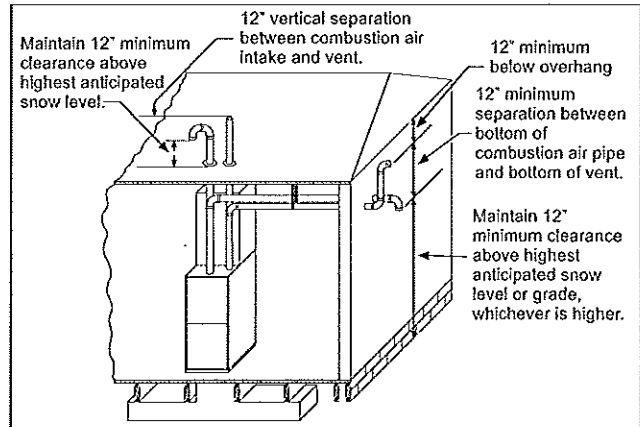

FIGURE 32: Termination Configuration - 2 Pipe
7. Direct vent systems must be installed so the vent and the combustion air pipes terminate in the same atmospheric zone. Refer to Figures 32 or 33.
The combustion air side of the two-pipe configuration shown in Figure 32 can be installed so the combustion air pipe terminates as described in outdoor combustion air or ventilated combustion air sections in these instructions. Follow the instructions for outdoor combustion air or ventilated combustion air and the instructions for installing the vent system with the vent terminating as shown in Figures 34 or 35. The two-pipe system must have a separate combustion air pipe and a separate vent pipe for each furnace. Under NO circumstances can the two combustion air or vent pipes be tied together. The combustion air and vent pipes must terminate in the same atmospheric zone.